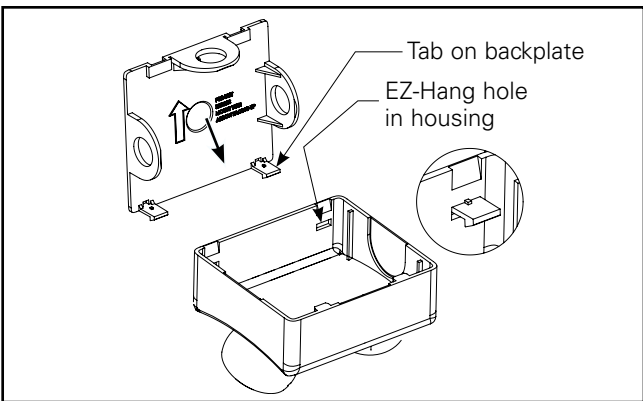

Figure 2.
4. Install the backplate to the junction box using screws. Once the backplate is installed the unit can be hung from the EZ-Hang snap features to increase ease of installation. (See Figure 2)